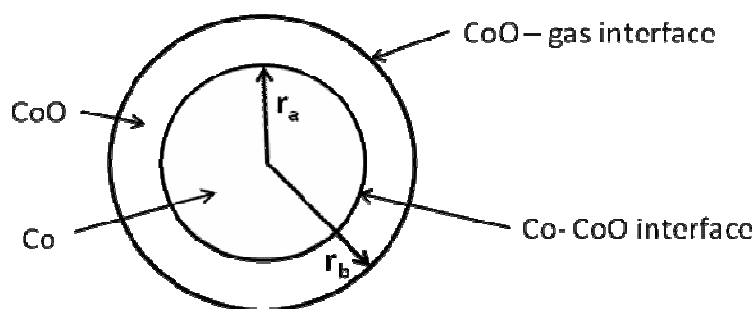

Fig. 2
Solid cobalt oxide (bulk) is formed in the reaction vessel. This causes an irreversible loss of the catalyst's mass. Solid cobalt oxide can also be deposited on the surface of Co(s). In this case the new spherical layer is formed around the surface of the catalyst (see figure 2) and the catalytic activity drops.
Assume now that solid cobalt oxide forms a spherical layer around a nanoparticle of cobalt. In this case the nanoparticle contains both a reactant (Co) and a product (CoO) (Fig. 2).
- 2.8 When spontaneous oxidation of Co begins the radii of two layers in the nanoparticle (Fig. 2) are almost equal,  $r_a = r_b = r_0$ , and  $\Delta_r G^0(1, r_a, r_b) = \Delta_r G^0(1, r_0)$ . Assume that  $\sigma_{\text{CoO-gas}} = 2\sigma_{\text{CoO-Co}}$ . Which plot in the Answer Sheet describes correctly the dependence of  $\Delta_r G^0(1, r_0)$  on  $r_0$ ?